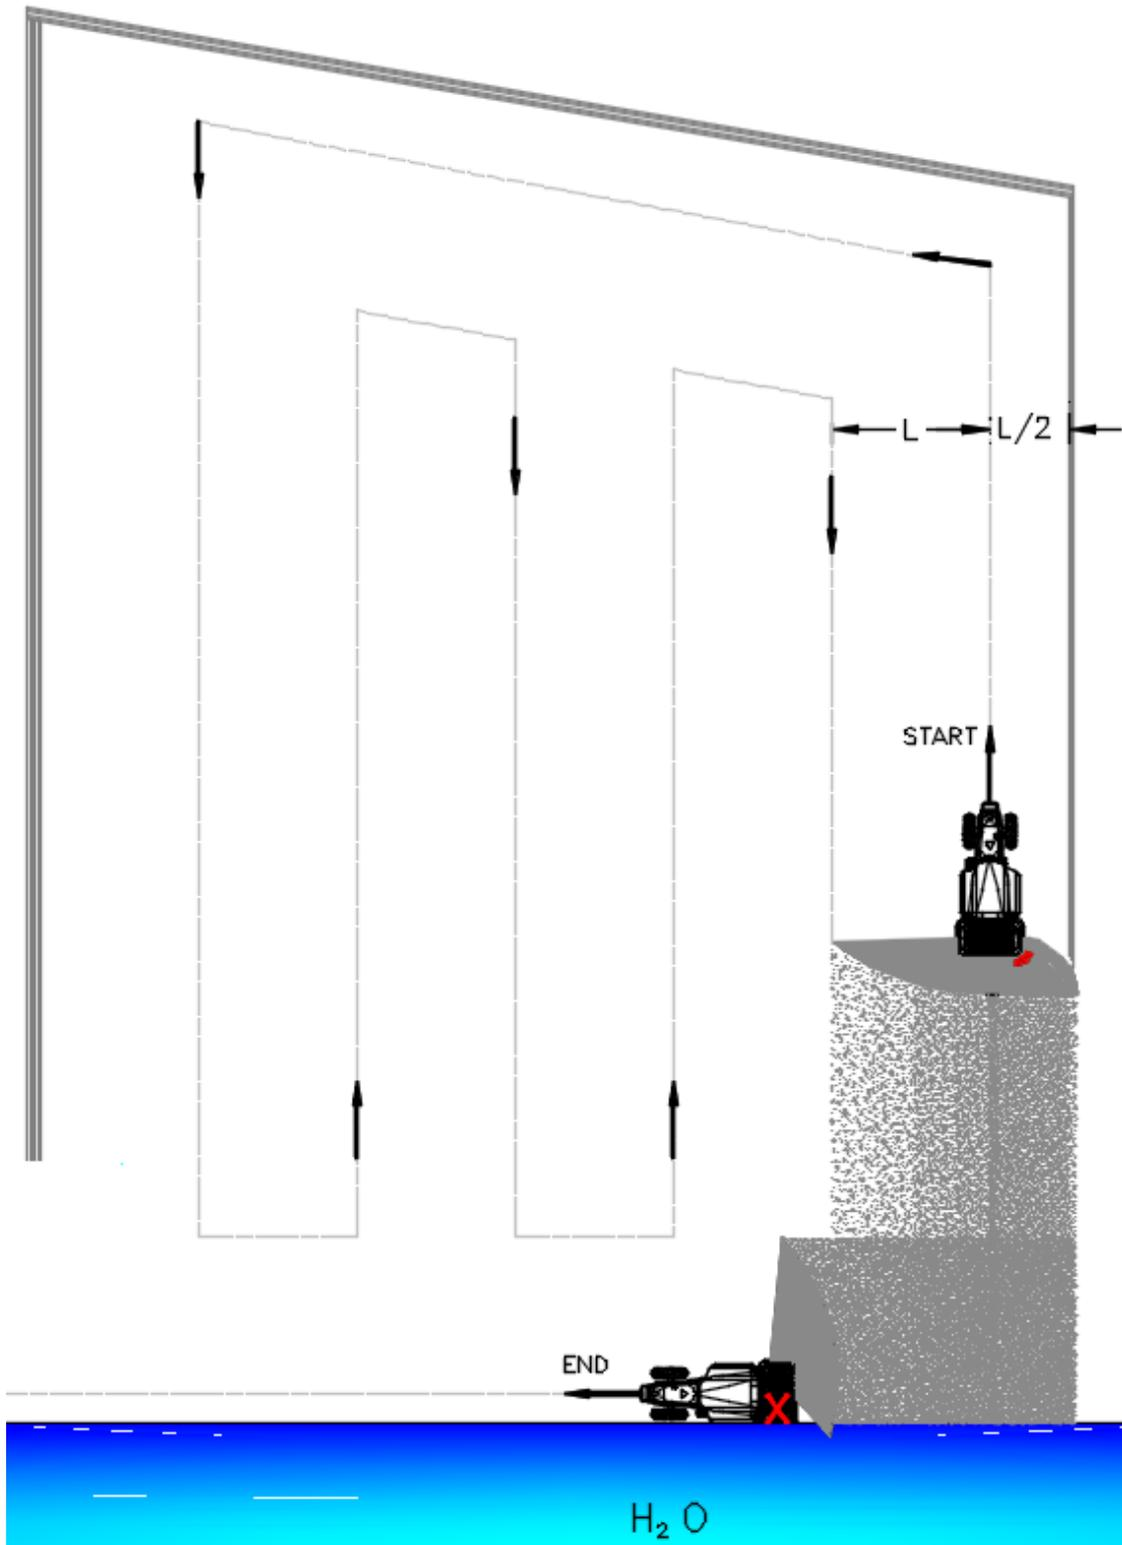

Figure 12.1 - Example of spreading on the field
- 4) The diagram on the following page (*Figure 12.1*) shows, by way of example, one of several possible approaches to spreading fertiliser or seeds on the field. The aim is to ensure complete spreading, with no gaps or repetitions over the area to be covered, while respecting the standards and limitations of the field.